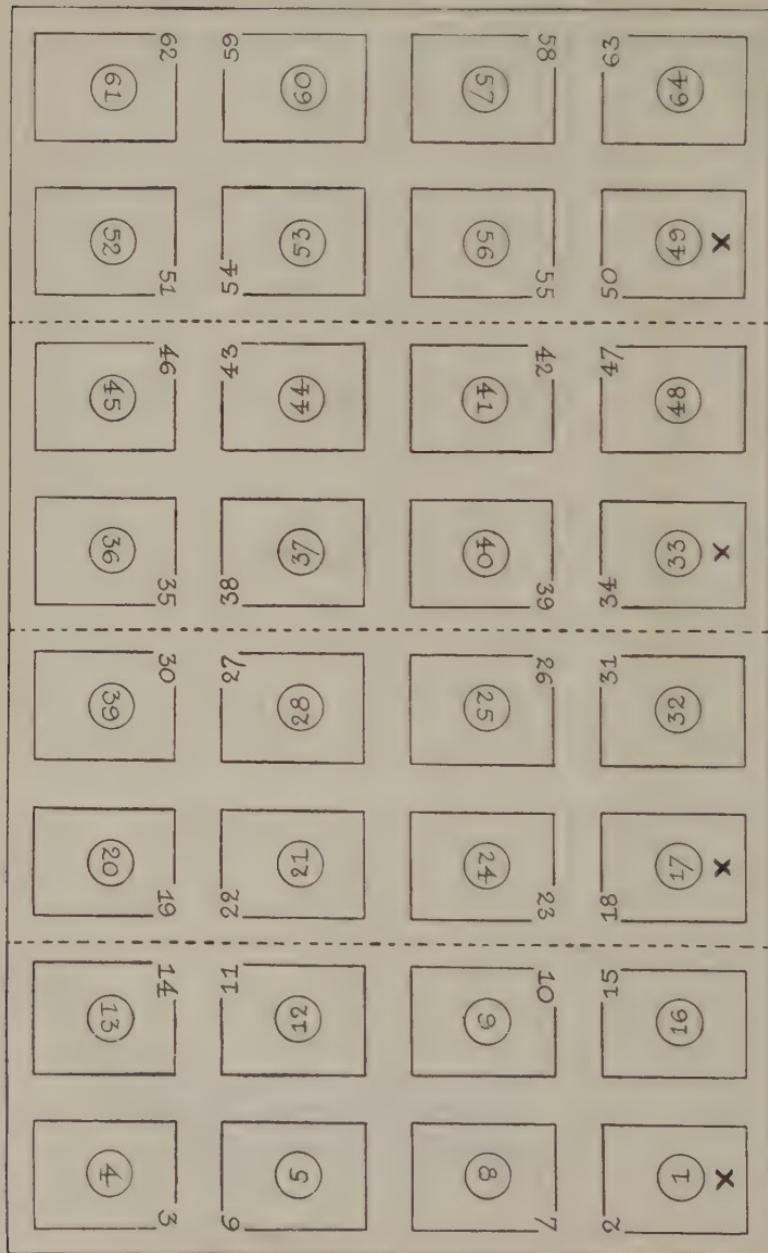

FIG. 255—QUADRUPLE-16 SHEET—CIRCLED FOLIOS ARE ON REVERSE SIDE. X MARKS LOW FOLIOS.
11. If the sheet has four sixteens printed thereon it is probably a "quadruple" sheet and will look like Fig. 255. A quadruple sheet must be cut into four parts for hand folding. A quadruple sheet will have four sets of sixteen page folios and the "high" and "low" folios of each sixteen will be found along *one long edge*.